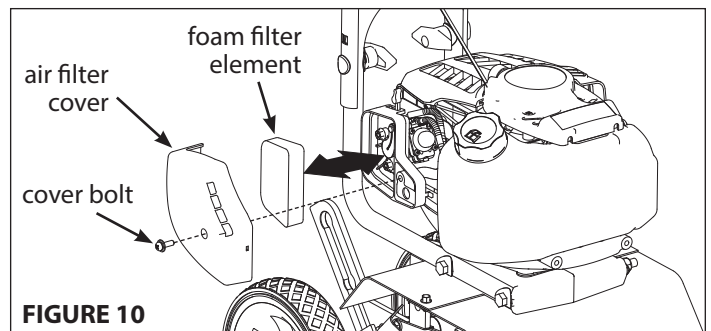

FIGURE 10
3. Remove the foam filter element and replace with a new oiled filter (**SEE FIGURE 10**), or clean the original foam filter with warm water and mild soap. Remember to thoroughly oil the foam filter with 30 or 40 weight motor oil and squeeze out any excess oil before reinstalling it. Make sure to press the foam filter evenly into place to ensure that the foam is fully seated into its sealed position.